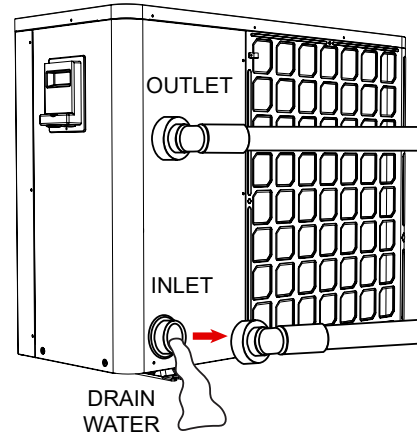

Figure 66. Inlet and Outlet Connections
2. Unscrew the water union on the outlet pipe (top) to allow water to flow out. Drain the remaining water from the heater by removing the piping connections on both the inlet and outlet sides. See **Figure 66**.